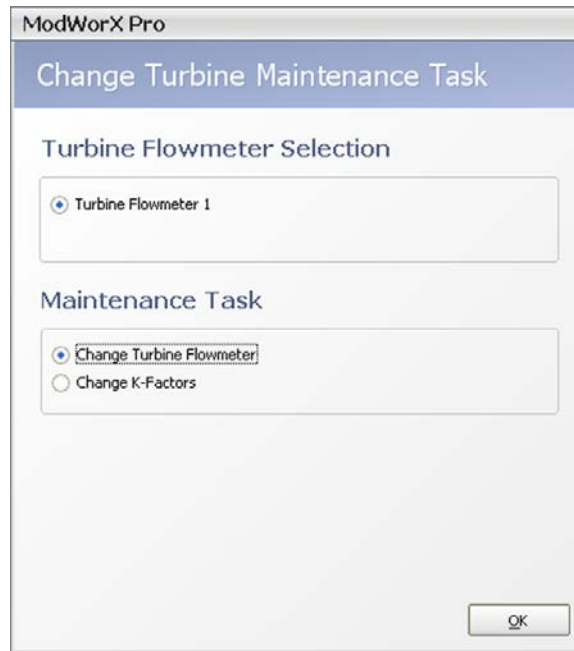

Figure 13.2
2. Click **Yes** at the Enter Maintenance Mode prompt to proceed. The Change Turbine Maintenance Task screen will appear (Figure 13.2, page 172).